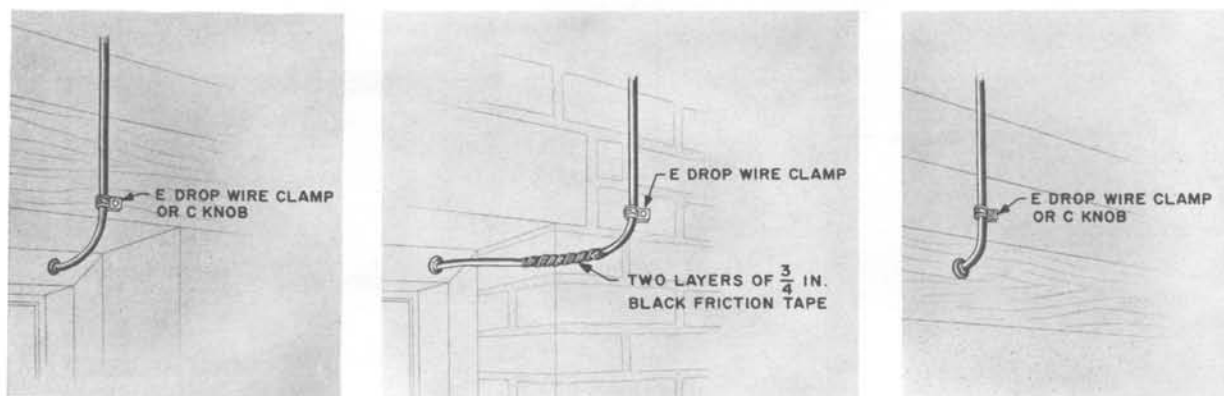

Fig. 15 — Last Attachment (Building Entrance Hole Slopes Upward from Outside)
4.00 LAST ATTACHMENTS ON BUILDINGS (Fig. 15 and 16)